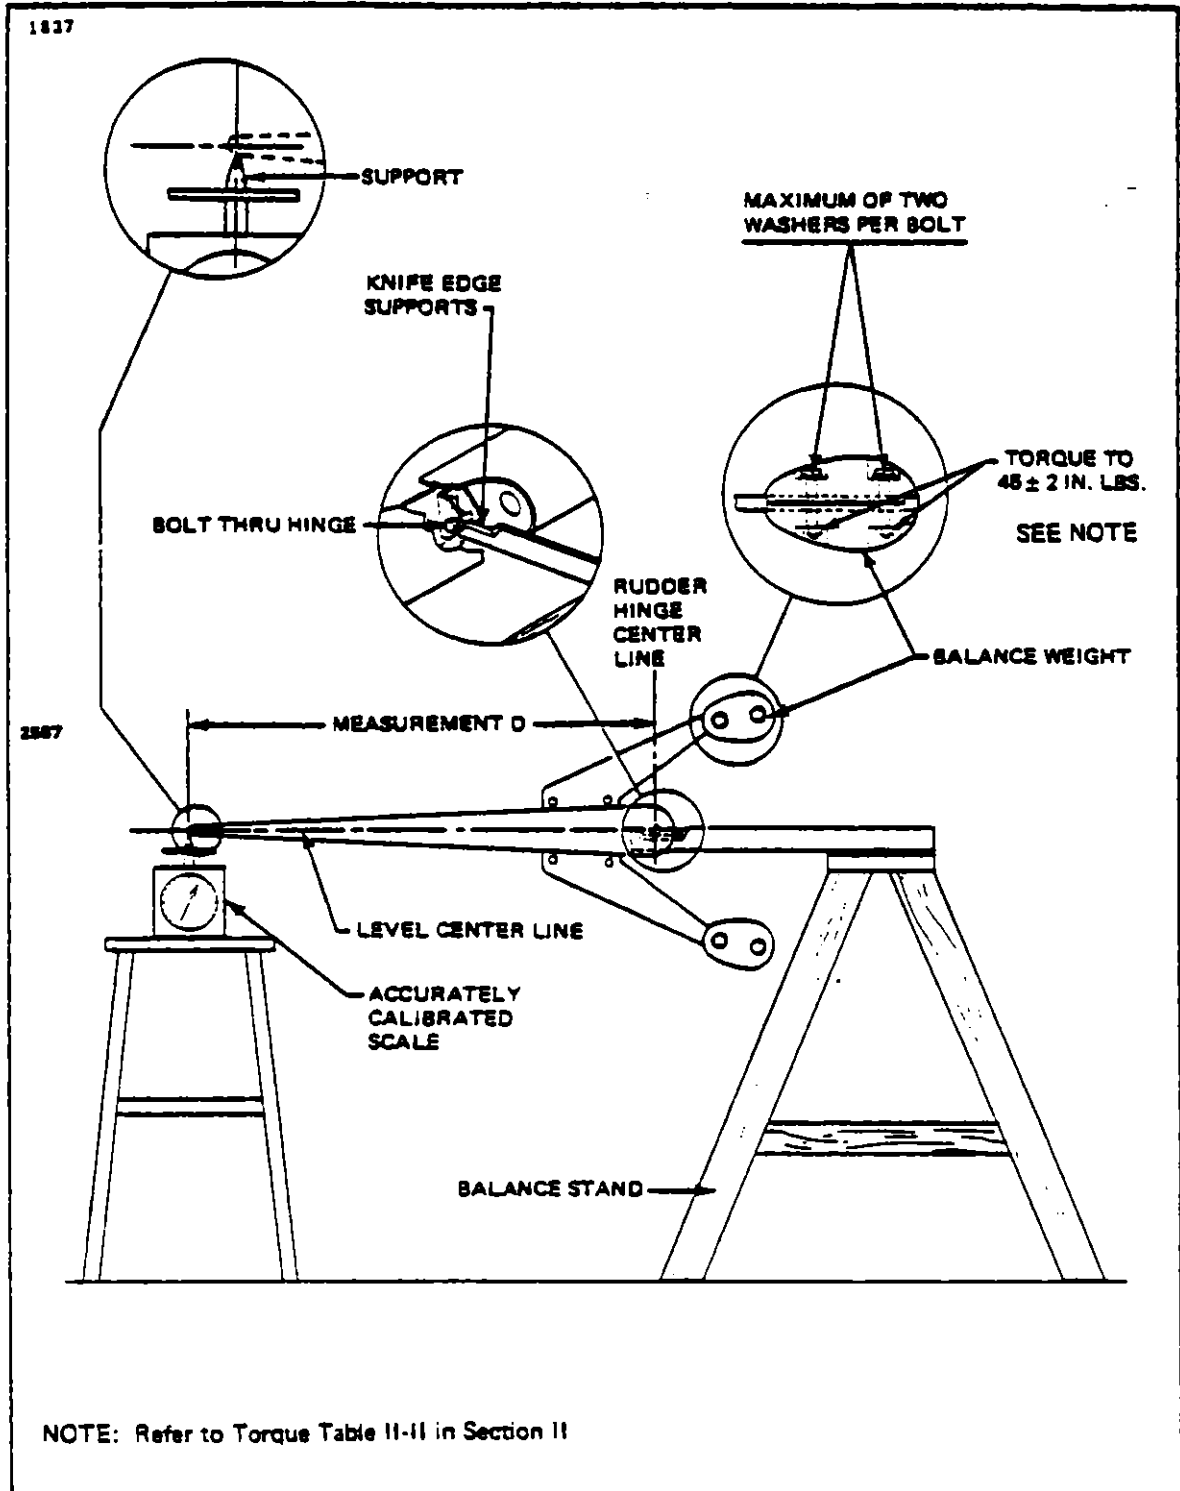

FIGURE 4-7c. CHECKING AND BALANCING RUDDER
4-51 Checking And Balancing Rudder. (Refer to Figure 4-7c.) The rudder must be checked to assure it is properly balanced whenever it has been repaired, repainted, or altered in any manner. The balancing requirement of the rudder must be checked with the complete assembly removed from the airplane.
- b. Insert bolts in the two end hinges and place the complete rudder assembly on a suitable balance stand, as shown in Figure 4-7c.
- c. Position an accurately calibrated scale below the trailing edge of the rudder, as shown in Figure 4-7c.
- e. Measure the distance (in inches) between the point at which the support on the scale contacts the rudder surface and the centerline of the rudder hinge. This is Measurement D on Figure 4-7c.
A rudder which is overly trailing edge heavy may be balanced by adding additional weight in the form of AN960-10 washers under the heads of the balance weight attachment bolts. A maximum of two washers per bolt along with longer bolts to accept the added washers is allowed. The washers must be spaced evenly on both balance weights. (Refer to Figure 4-7c.)